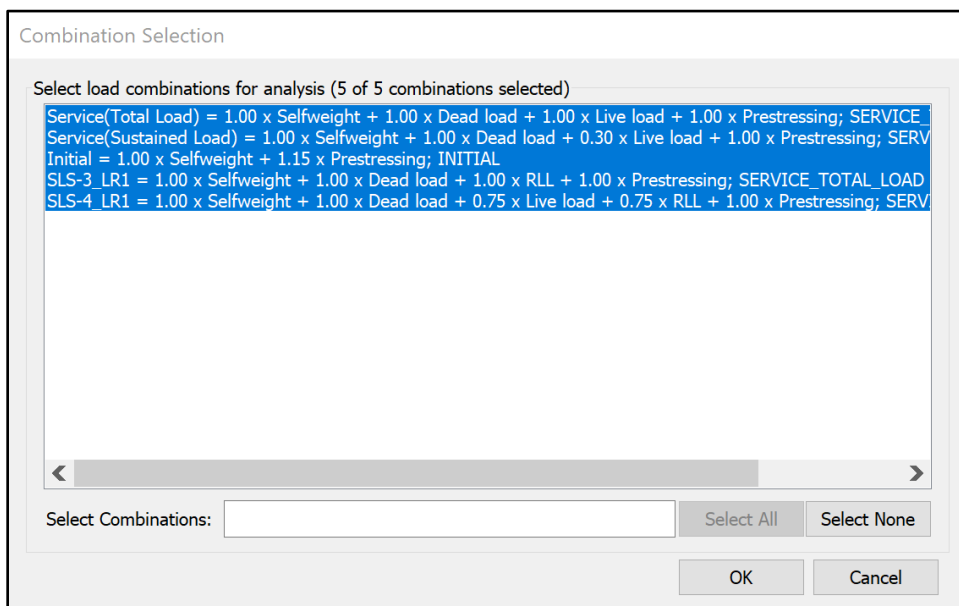

FIGURE 9-104
- This will open the *Combination Selection* window as shown in **FIGURE 9-104**.
- Because we used the PT Strip Optimizer to Update Service Solution, we now need to update the service solution for all other support lines. Go to *Tendon* → *Service Solution* and click on the *Update*  icon to open the *Combination Selection* window shown above in **FIGURE 9-104**.